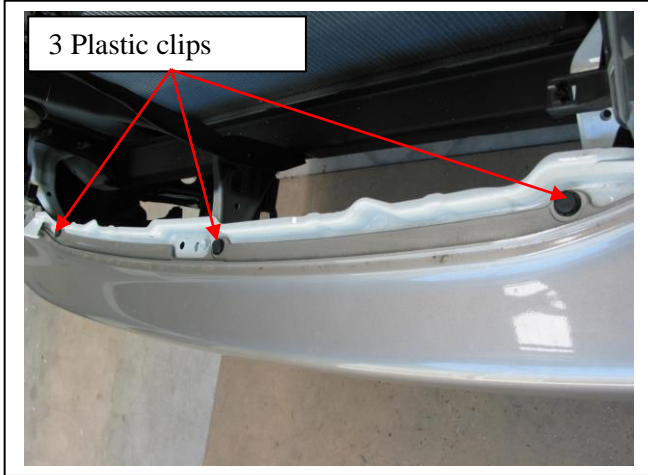

Figure 1
1. Lift Bonnet. Remove grille, three PK screw at top and two plastic clips at bottom. Remove bumper cover. Three plastic clips behind bottom of grille area, **See figure 1**, one 10mm head PK screw (each side at top of bumper side returns and four to six 10mm head bolts, depending on model) along bottom of bumper. Disconnect original bumper lights as removing.